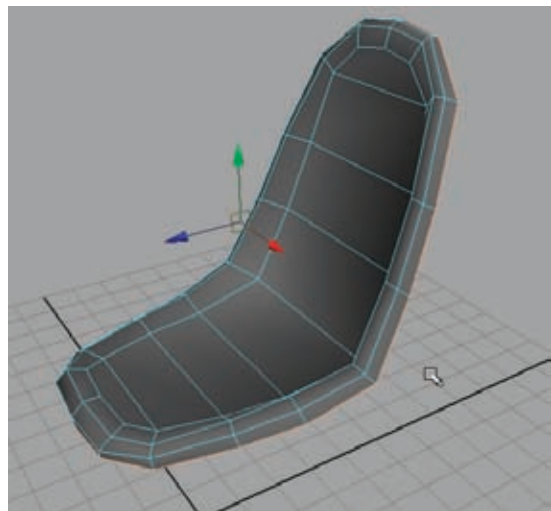

Figure 4.39
15. Select the gap faces and apply an Extrude, scaling the extrusion inward to create a curved indentation to form the bucket seat of the chair, like in Figure 4.39.